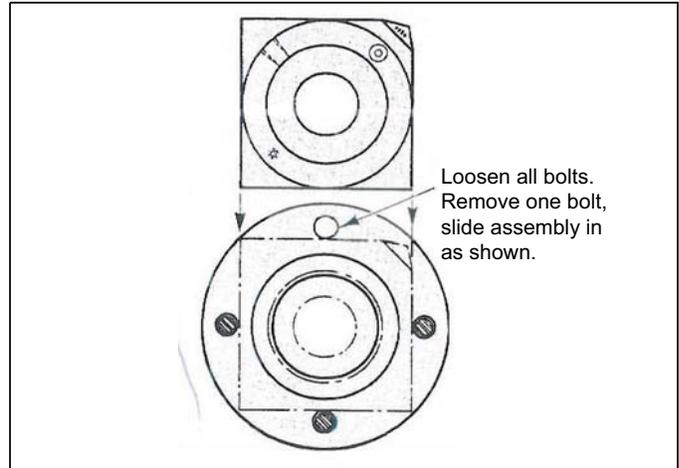
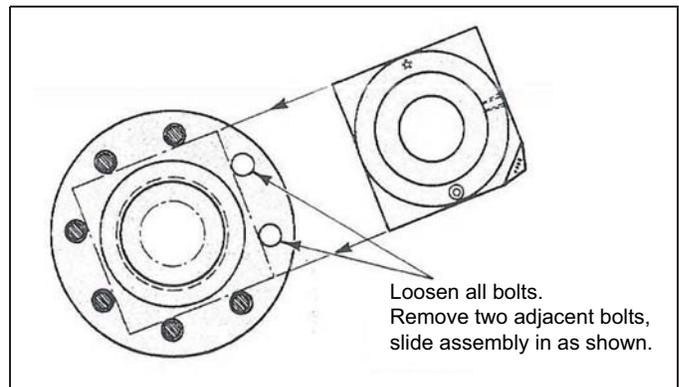

Figure 3.
Figure 4.
4. On four bolt flanges, install the gaskets supplied and three bolts loosely, (Figure 3). On eight bolt flanges, install the gaskets supplied and six bolts loosely, (Figure 4).